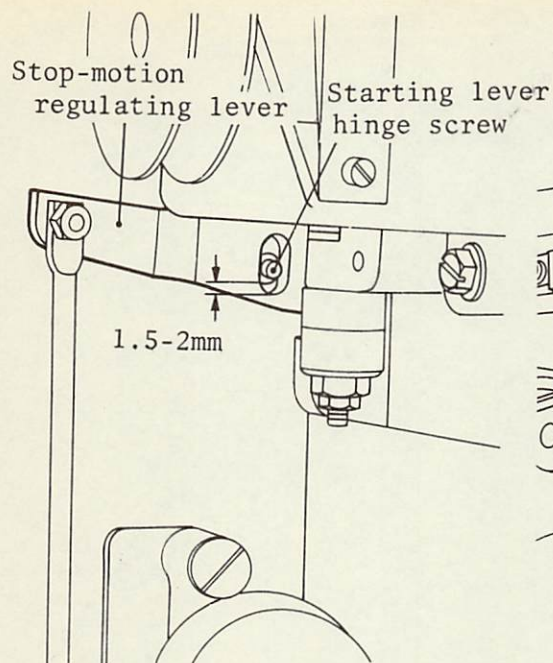
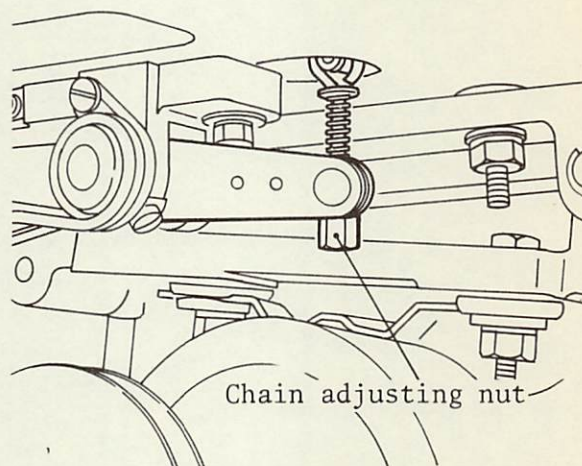

Fig.68
Fig.69
- 1) At the stop-motion time, the clearance between the stop-motion regulating lever's long hole part and the starting lever hinge screw should be matched to 1.5--2mm (1/16--5/64") as shown in Fig.68. Turn the chain adjusting nut (Fig.69) to adjust to this clearance. This nut locks up at each half turn.
- 2) When the pedal is stepped on one step up and down and the work clamp foot does not go up, turn the chain adjusting nut(Fig.69) to right.